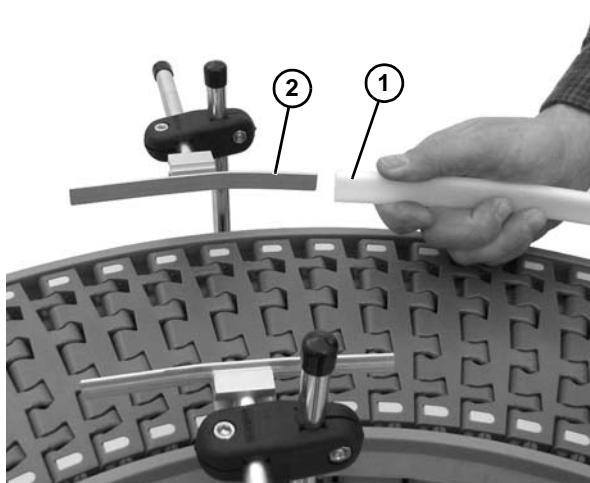

Figure 35
2. Curve Sections: Install guiding (**Figure 35, item 1**) onto guide supports (**Figure 35, item 2**).